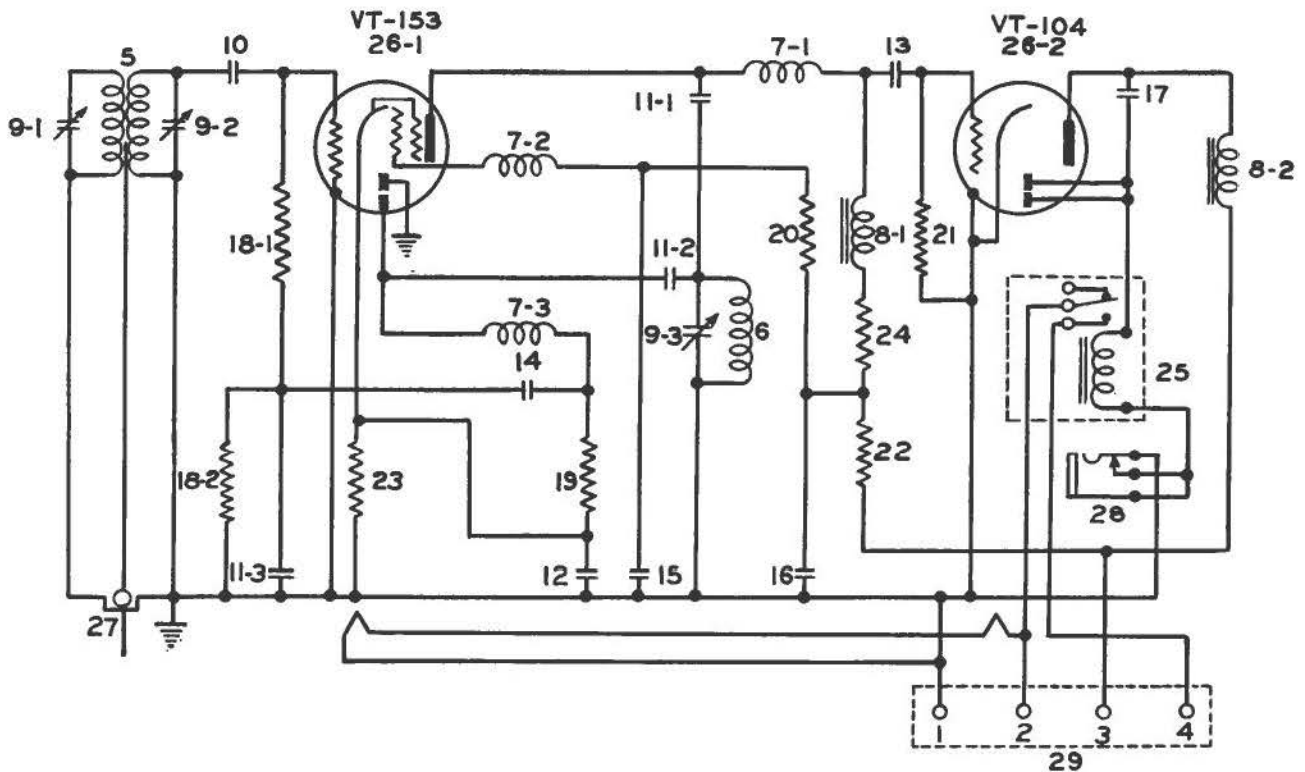

Figure 164. Marker Beacon Receiver—Schematic Circuit Diagram
Referring to the schematic diagram, Figure 164, the ultra high frequency signal (75 megacycles) picked up by the antenna is fed to the primary of the input radio frequency transformer (5) through a concentric transmission line. Both the primary and secondary of the radio frequency transformer are tuned. The ultra high frequency voltage induced in the secondary of the RF transformer is impressed on the control grid of Tube VT-153 (26-1) by means of the capacitor (10) and grid resistor (18-1) and grid resistor (18-2) is effectively by-passed at radio frequency by capacitor (11-3). The ultra high frequency variations of plate current of Tube VT-153 caused by the signal voltage impressed on the control grid produces a radio frequency voltage across RF Choke (7-1) which is impressed on the diode plate by means of coupling capacitors (11-1) and (11-2) and FR Choke (7-3). The main advantages of tuned circuit (6) and (9-3) is to give the receiver more selectivity. The radio frequency signal is rectified by the diode. The audio frequency voltage produced across the resistor (19) is coupled back to the grid of Tube VT-153 by means of capacitor (14) and resistor (18-2). Resistor (18-1) can be considered in series with the control grid when the tube functions as an audio frequency amplifier (decreasing the value of this resistor causes the receiver to be-